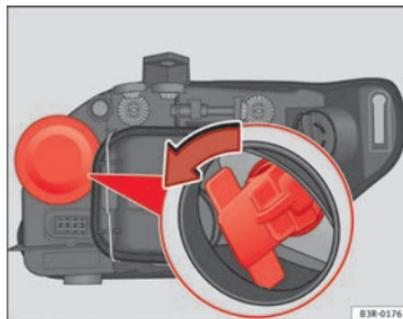

Fig. 207 Turn signal bulb
- Remove the bulb holder by pulling on the grip and turning it anticlockwise ⇒ Fig. 207.